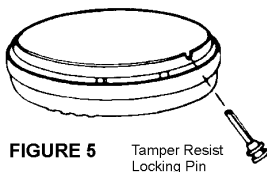

FIGURE 5
- 5.9 USING TAMPER RESIST LOCKING PIN: To make your smoke alarm somewhat tamper resistant, a locking pin has been provide in the bag with the screws and anchors. Using this pin will the alarm from the mounting plate. To use the pin, insert it into the hole in the side of the alarm after the alarm has been installed on the mounting plate (see Figure 5).